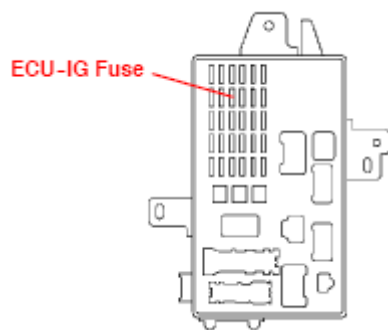
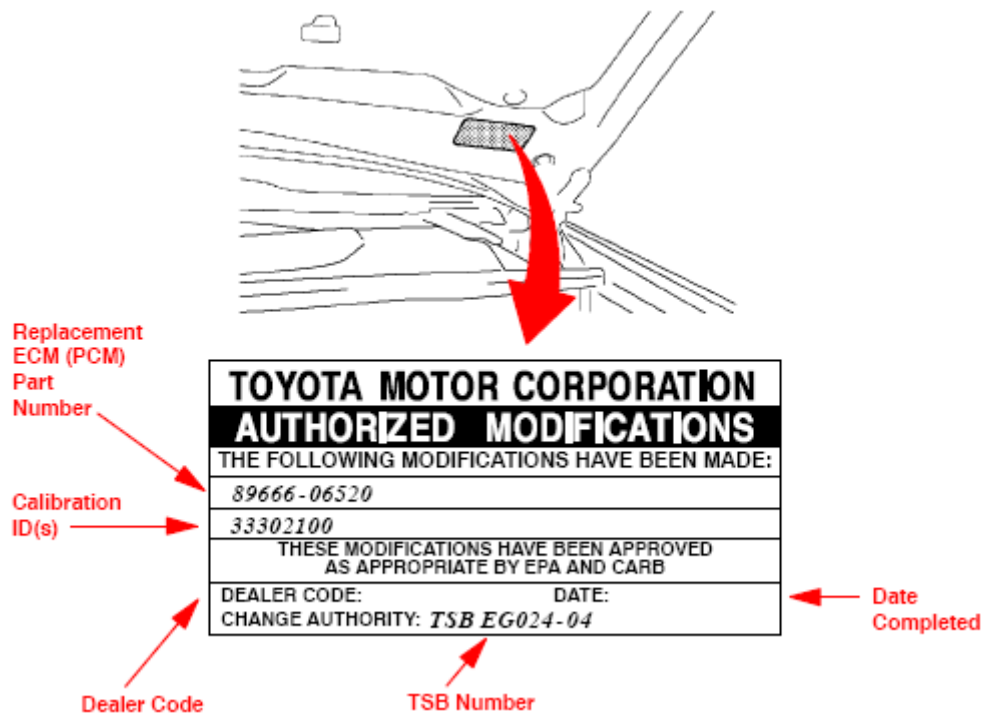

Fig. 2: Identifying ECU-IG Fuse Location
Fig. 3: Identifying Authorized Modifications Label On Camry
- **April 3, 2007:** A new step 3 and Figure 2 have been added to the ECM Reprogram Procedure (regarding removal of the 10A ECU-IG fuse). Previous Figure 2 is now Figure 3.
1. Check for the Authorized Modification Label affixed to the vehicle in the location shown in **Fig. 3**. If there is no label present, proceed to step 2.
3. Remove the 10A ECU-IG fuse from the instrument panel Junction Block (refer to **Fig. 2** for location). This action prevents possible activation of the ABS relay, resulting in ECM Reprogramming failure.
8. Enter the following information on the Authorized Modification Label shown below in **Fig. 3** using a permanent marker.